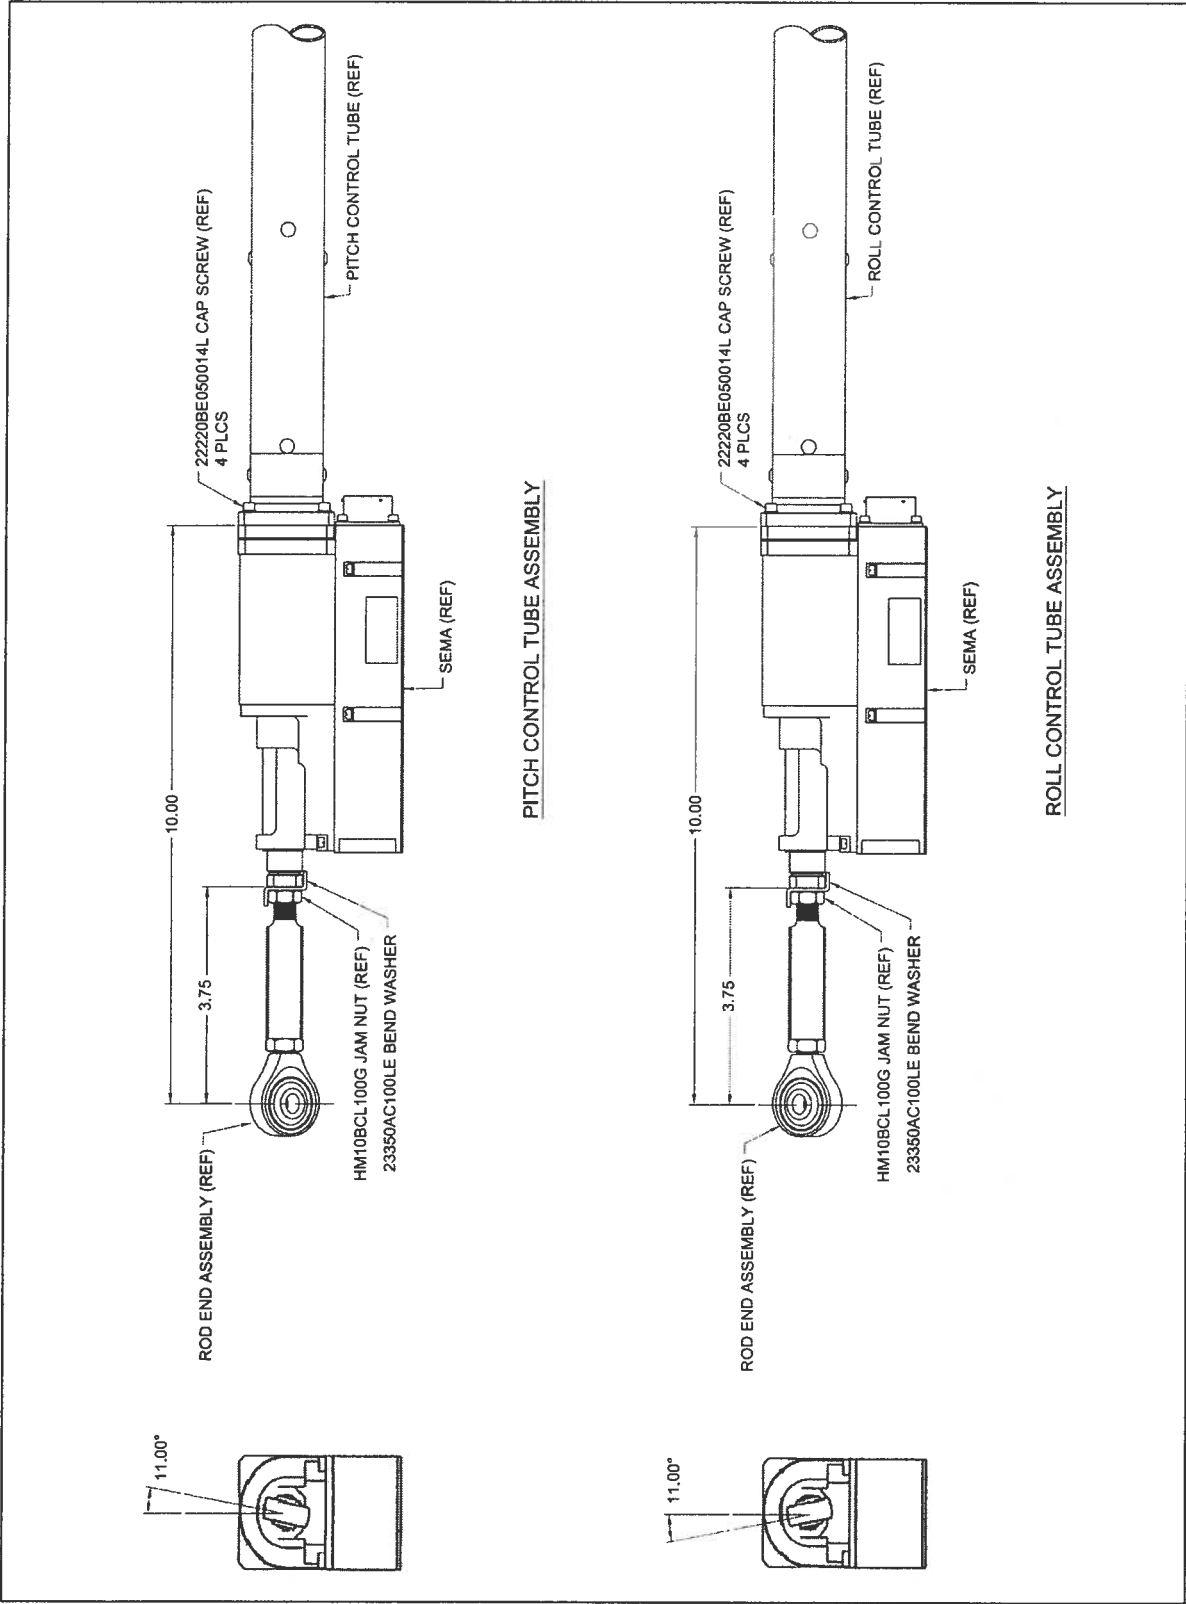

FIGURE 3 – Pitch and Roll SEMA Installation
4. Straighten Bend Washer and loosen Jam Nut as shown in Figure 3.
- h. Verify the proper overall dimension of 10.00 inch as shown in Figure 3.